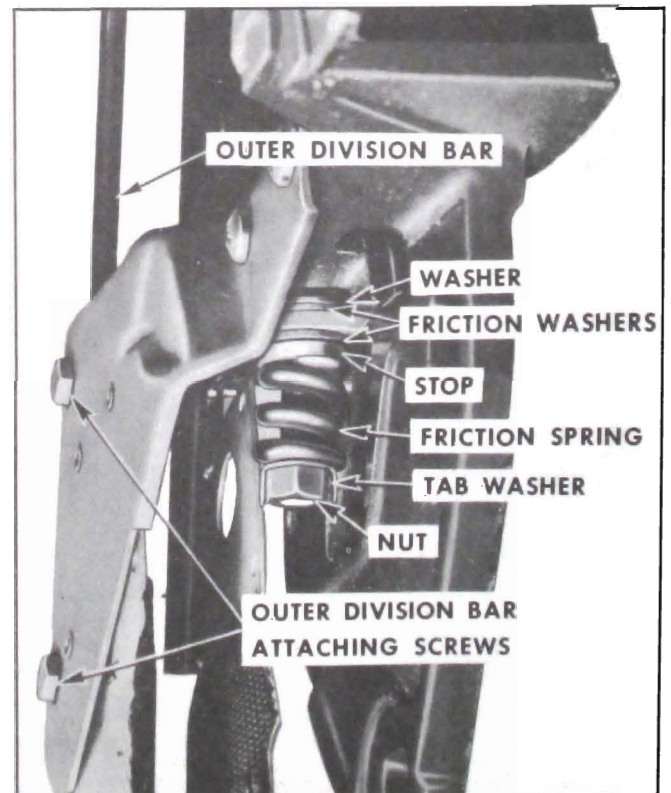

Figure 13-224—Rear Door Ventilator Friction Drag
3. Bend up tabs on tab washer, remove nut, tab washer, spring, friction stop and friction washer, shown in Fig. 13-224.
5. To install ventilator sash channel and glass, reverse removal procedure. Make sure friction washers are installed as shown in Fig. 13-224 and that tabs of tab washer are bent down over nut.
2. Remove outer division bar attaching screws shown in Fig. 13-224, then pull division bar downward to disengage from ventilator frame and remove bar and strip assembly.